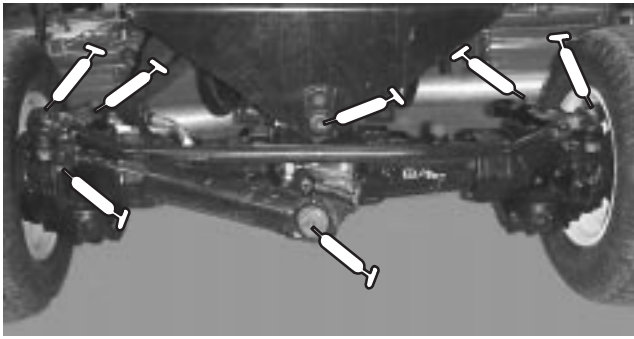

Figure 38
- Rear axle tie rod (2), Steering cylinder ball joints (2), Axle steering pivots (2) Rear axle pivot (1) (Fig. 38)